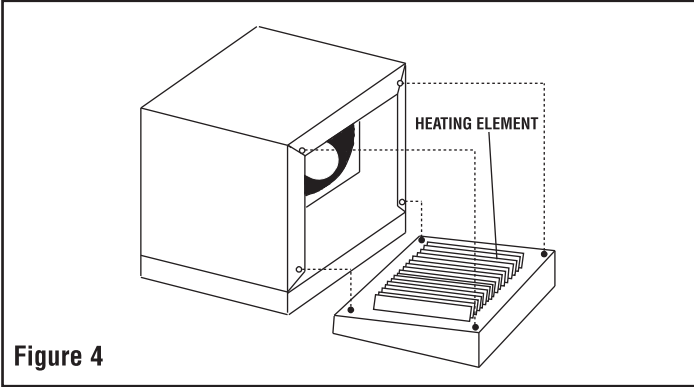

Figure 4
**5 kw & 7.5 kw Heaters:** The heating element is accessible by removing the louvered bezel, front section of the heater. Loosen, but do not remove, 4 recessed head screws located to the rear of louvers (Figure 4). Grasp bezel on both sides, lift up and pull out, disengaging bezel. After servicing the unit, reverse this procedure to replace bezel.